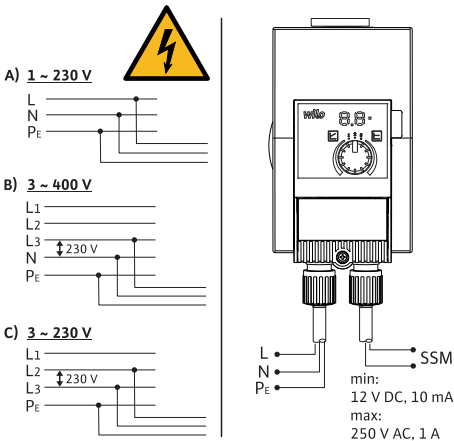

Fig. 3: Connection options
- Connect to 230 V low-voltage networks. When connecting to IT networks (Isolé Terre electrical system), always make sure that the voltage between the live wires (L1-L2, L2-L3, L3-L1 → Fig. 3) does not exceed 230 V.